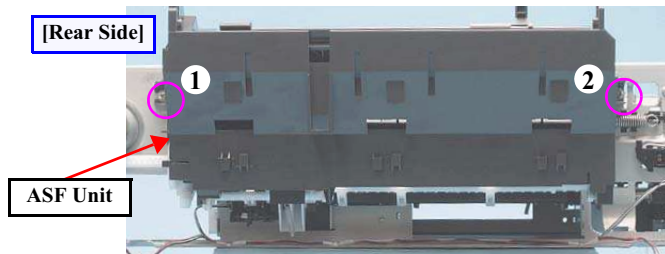

Figure 4-100. Disengaging the Hooks (ASF Unit)
- Tighten the screws in the order given in Fig.4-100 \(p.89\).